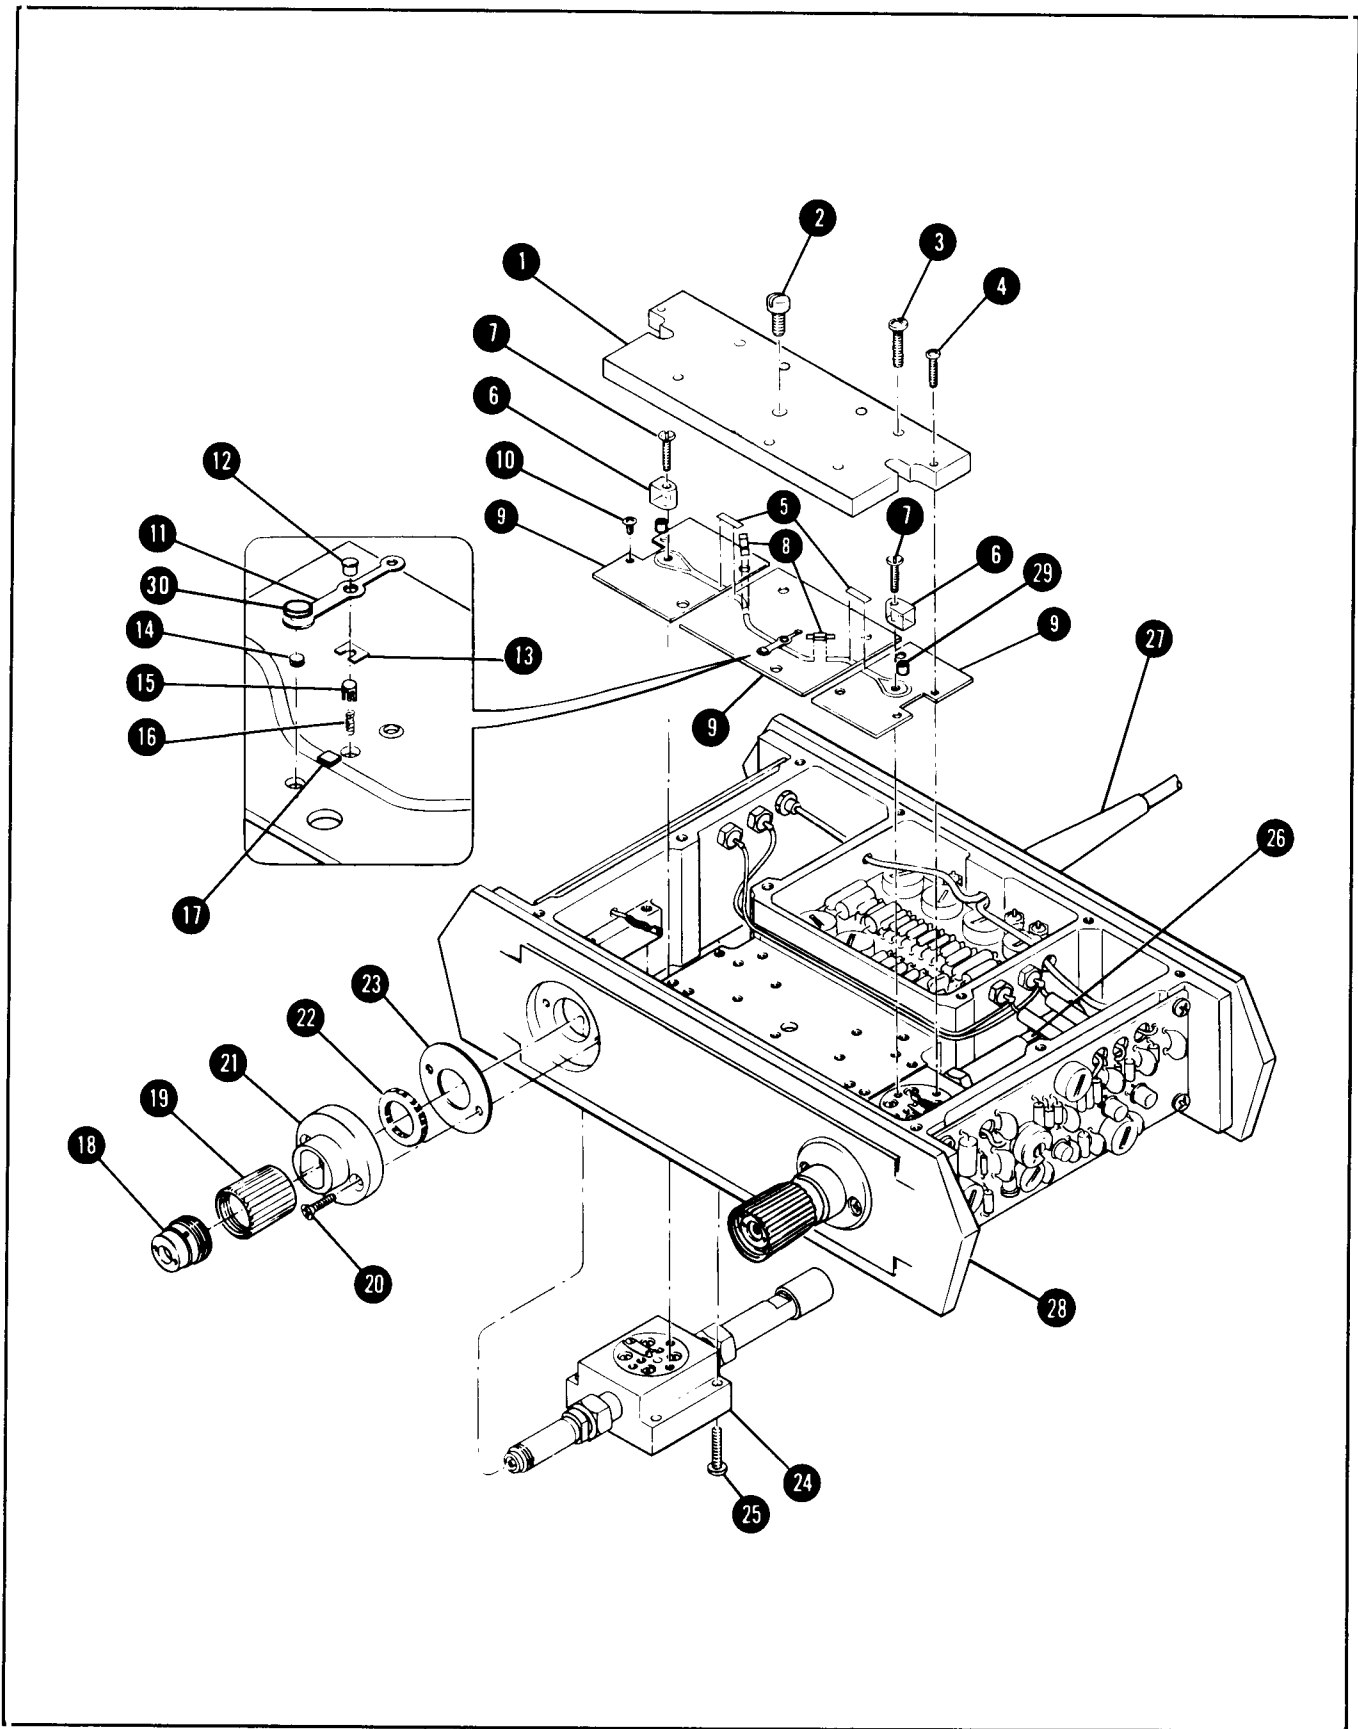

Figure 8-9. 8411A Exploded View
8-40. The locations of chassis-mounted parts and major assemblies is shown in Figures 8-9 and 8-20. The locations of individual components mounted on a printed circuit board are shown opposite the appropriate schematic diagram. The part reference designator may be found from the schematic diagram.
1. Remove APC-7 connector (Figure 8-9, Items 18 and 19) using spanner wrench, HP Stock Number 5060-0237 (supplied in Accessory Kit 11587A and APC-7 Connector Tool Kit 11591A).
2. Remove the two Pozidrive screws (20) holding the cover (21) located behind the APC-7 connector. Remove the cover and the parts under the cover, noting the order of removal.
3. Remove clip-on leads from both sides of sampler (24) and push leads into hole in casting.
2. Turn the 8411A upsidedown and remove plastic stripline cover (Figure 8-9, Item 1).
3. Remove step generator diode (12) and Mylar shim (13) under diode.
1. Clean solder from hole in stripline board (Figures 8-9, Item 9).
5. Reinstall step generator diode (12) and Mylar shim (13).
6. Remove plastic screw (2) from the plastic stripline cover (1), and install cover.
7. Install plastic screw (2) in stripline cover (1).
- a. Remove plastic stripline cover (Figure 8-9, Item 1).
- b. Remove step generator diode (12).
- c. Install new diode, with Mylar shim (13) positioned as shown in Figure 8-9.
- d. Remove plastic screw (2) from the plastic stripline cover (1) and replace cover.
- a. Remove metal screws from plastic stripline cover (Figure 8-9, Items 3 and 4) and remove cover.
- b. Remove step-recovery diode (12) and Mylar shim (13) under diode.
1. Remove plastic mixer coax clamp (6) and two metal screws (10) from end section of stripline.
2. Unsolder one end of stripline jumper (5) and remove end section of stripline.